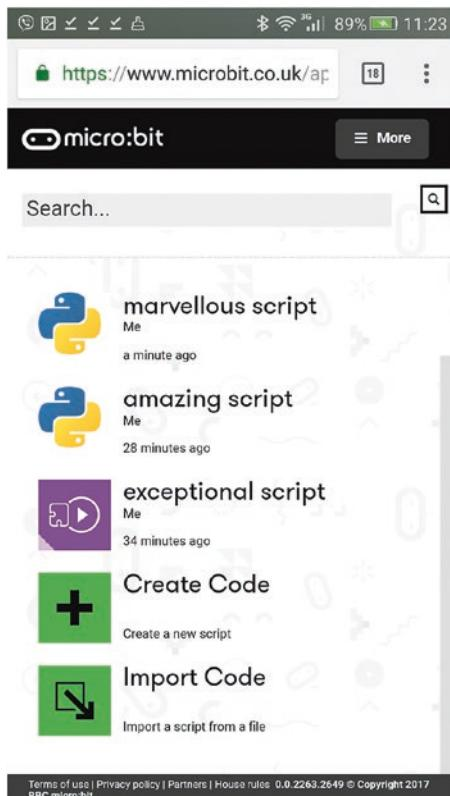

Figure B-10. Tapping the *Create Code* button
3. Tap the Create Code button (see Figure B-10) from the list to create a new script.